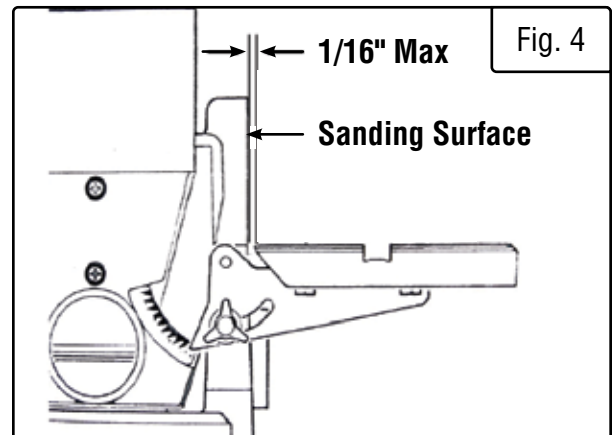

Fig. 4
3. Adjust the table so that the edge is a maximum of 1/16 inch from the disc. (Fig. 4)